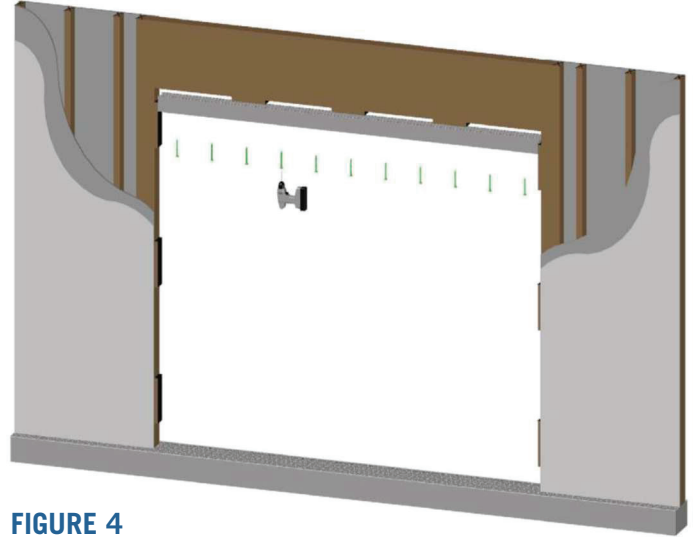

FIGURE 4
3. Ensure header is leveled and straight and anchor into substrate. (Fig.4)